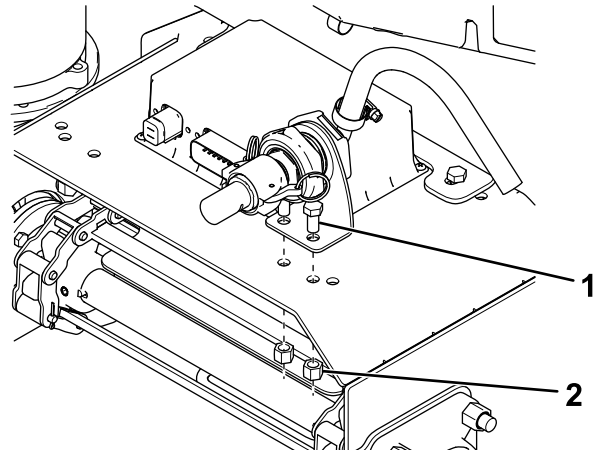

Figure 11
- For VBX pintle chain spreaders, mount the bracket to the top of the pintle chain assembly as shown in Figure 11.